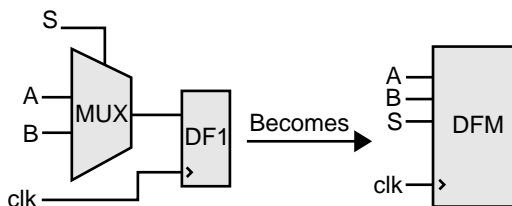

Figure 3-2. Combined Combinatorial and Sequential Macros
2. It combines a combinatorial macro and a sequential macro into a single sequential macro. For example, a combinatorial macro “MUX” and a sequential macro “DF1” are combined into a single sequential macro “DFM,” shown in Figure 3-2. Combinatorial Module Reduction is not available for ACT 1 or 40MX devices because these families do not have sequential modules. Module Reduction is not available for 54SX devices. Instead, an automatic DirectConnect between a combinatorial module and a sequential module is used.